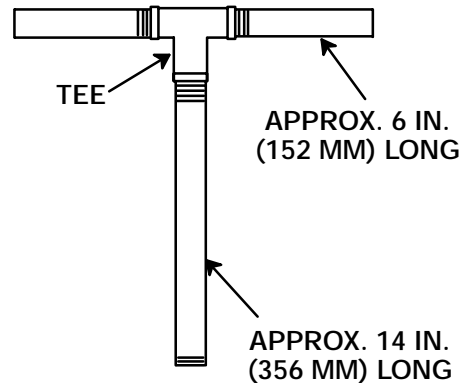

Figure E--19. Rotating Assembly Tool
*An optional disassembly tool is available from the factory. If the tool is used, follow the instructions packed with it. A similar tool may be assembled using 1/2-inch pipe (schedule 80 steel or malleable iron) and a standard tee (see Figure E--19). All threads are 1/2-inch NPT. **Do not pre-assemble the tool.***